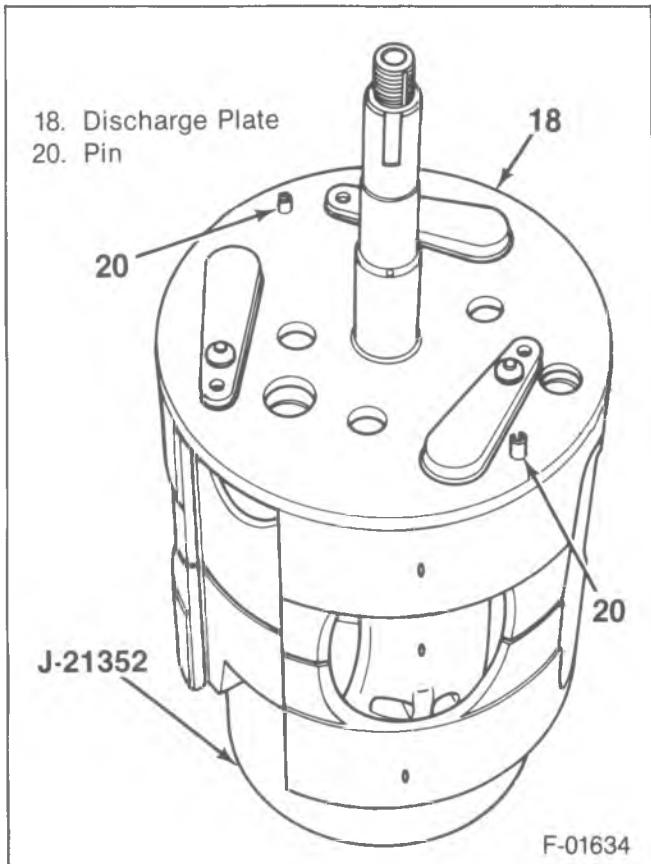
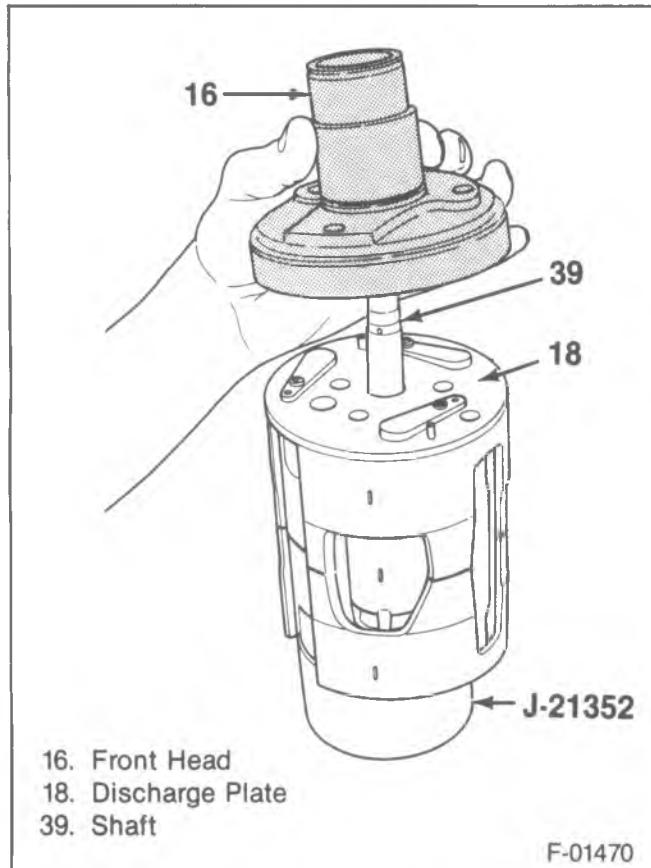

Figure 45—Installing the Front Discharge Valve Plate
Figure 46—Installing the Front Head
- Align the dowel pins (20), suction ports, oil return slot and discharge cross-over tube (26).
12. Front discharge valve plate (18) (figure 45).
- Align the holes with the dowel pins (20) and the openings in the front suction reed plate (18). The front discharge plate (18) has a large hole in the center.
13. Front head (16) (figure 46).
- Determine the position of the front head (16) in relation to the dowel pins (20).
- Mark the position of the dowel pins (20) on the sides of the front head (16) and on the sides of the internal assembly with a grease pencil.
- Lower the front head (16).